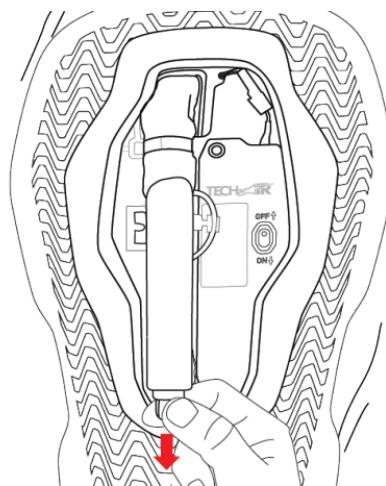

Figure 9: Removing the Squib Connector
Next, pop the Gas Inflator (1) out of the Gas Inflator Housing (4) by lifting it up and disconnecting the yellow Squib Connector (7) from the Gas Inflator(1), as shown in Figure 9.